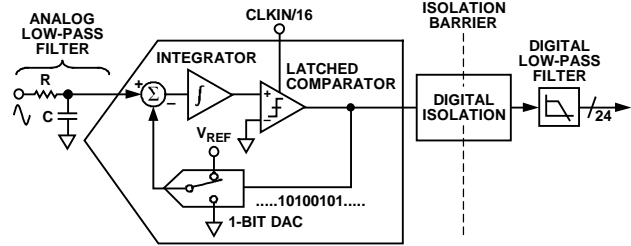
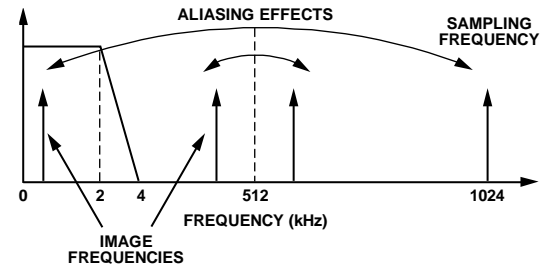

Figure 25. First-Order Σ - Δ ADC
Figure 27. Aliasing Effects
The ADE7912/ADE7913 have three second-order Σ - Δ ADCs. For simplicity, the block diagram in Figure 25 shows a first-order Σ - Δ ADC. The converter is composed of the Σ - Δ modulator and the digital low-pass filter, separated by the digital isolation block.
Figure 25 also shows an analog low-pass filter (RC) on the input to the ADC. This filter is placed outside the ADE7912/ADE7913, and its role is to prevent aliasing. Aliasing is an artifact of all sampled systems, as shown in Figure 27. Aliasing refers to the frequency components in the input signal to the ADC that are higher than half the sampling rate of the ADC and appear in the sampled signal at a frequency below half the sampling rate. Frequency components above half the sampling frequency (also known as the Nyquist frequency, that is, 512 kHz) are imaged or folded back down below 512 kHz. This happens with all ADCs, regardless of the architecture. In Figure 27, only frequencies near the sampling frequency of 1.024 MHz move into the bandwidth of interest for metering, that is, 40 Hz to 3.3 kHz, or 40 Hz to 2 kHz. To attenuate the high frequency noise (near 1.024 MHz) and prevent the distortion of the bandwidth of interest, a low-pass filter (LPF) must be introduced. It is recommended that one RC filter with a corner frequency of 5 kHz be used for the attenuation to be sufficiently high at the sampling frequency of 1.024 MHz. The 20 dB per decade attenuation of this filter is usually sufficient to eliminate the effects of aliasing.
All ADCs in the ADE7912/ADE7913 produce 24-bit signed output codes. With a full-scale input signal of 31.25 mV on the current channel and 0.5 V on the voltage channels, and with an internal reference of 1.2 V, the ADC output code is nominally 5,320,000 and usually varies for each ADE7912/ADE7913 around this value. The code from the ADC can vary between 0x800000 (−8,388,608) and 0x7FFFFF (+8,388,607); this is equivalent to an input signal level of ±49.27 mV on the current channel and ±0.788 V on the voltage channels. However, for specified performance, do not exceed the nominal range of ±31.25 mV for the current channel and ±500 mV for the voltage channels; ADC performance is guaranteed only for input signals within these limits. For input signals outside these limits, the digital low-pass filter of the ADCs (see Figure 25) overflows.